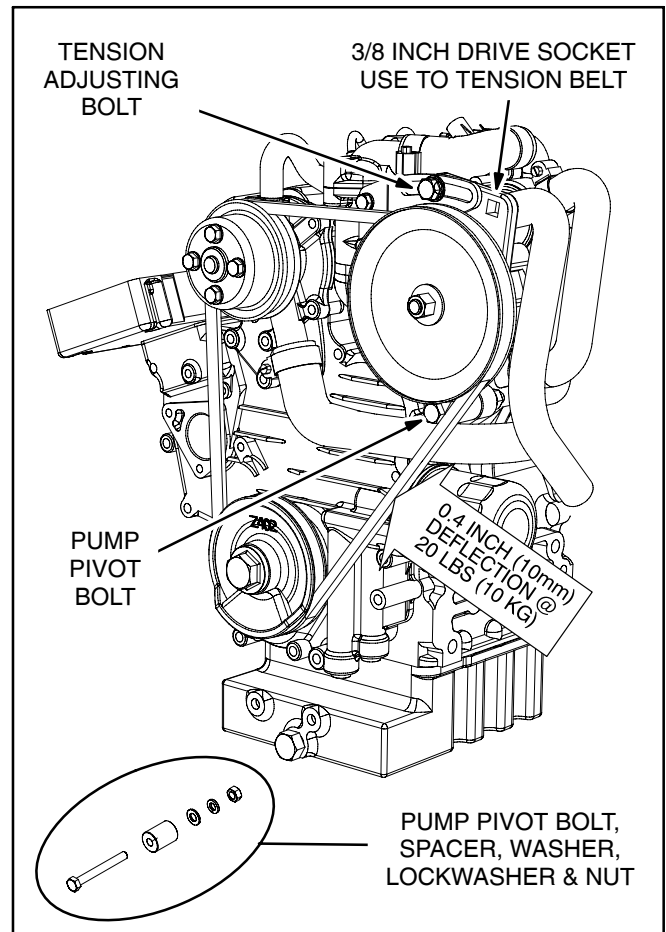
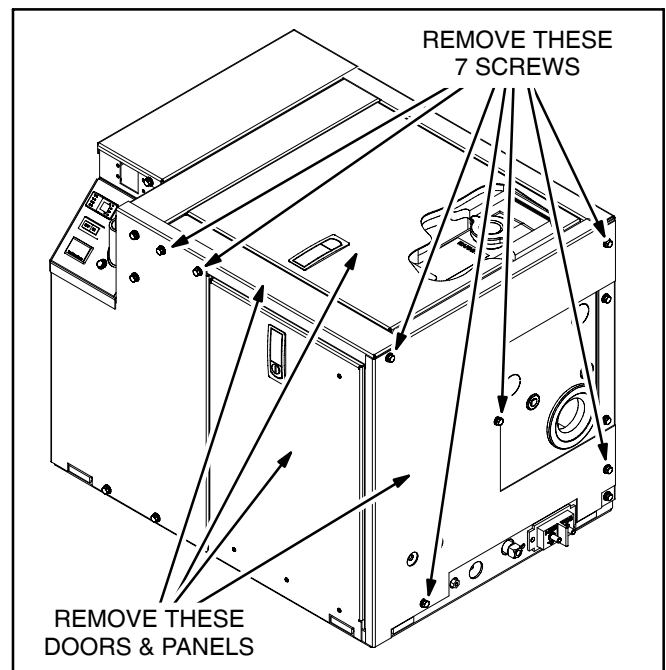
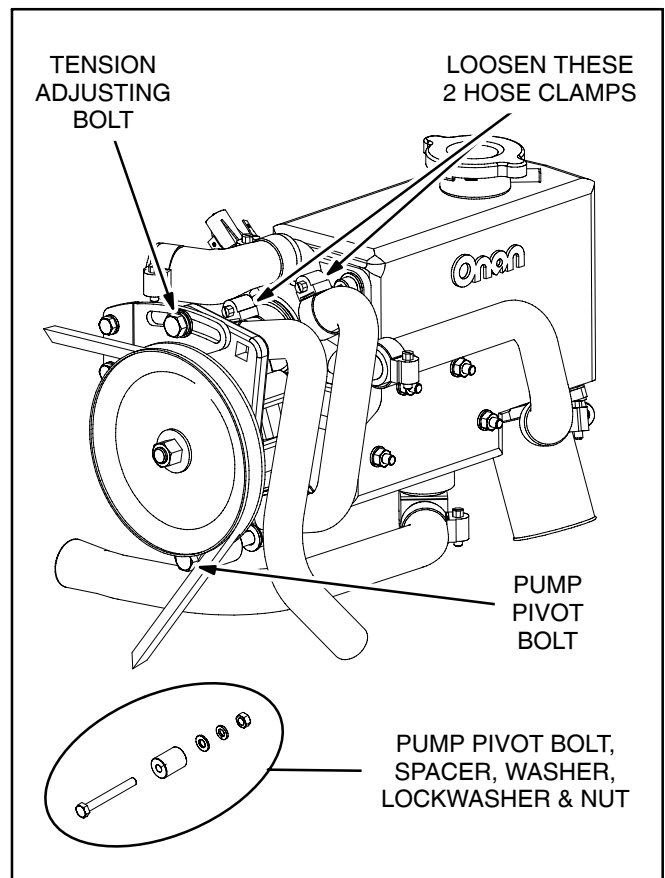

FIGURE 3-7. ADJUSTING V-BELT TENSION
FIGURE 3-8. REMOVING ACCESS PANELS
FIGURE 3-9. REMOVING RAW WATER PUMP
Referring to Figures 3-7 and 3-8, readjust belt tension as follows:
2. Remove the front and top access doors. If work space is limited, remove the side panel (Figure 3-8) to be able to hold the nut on the pump pivot bolt (Figure 3-7) with an open-end wrench while loosening the bolt.
See Table 3-1 for scheduled replacement. Have towels and containers ready and avoid spilling raw water on the electrical components below the pump. Referring to Figures 3-8, 3-9 and 3-10, replace the impeller as follows:
2. Remove the front and top access doors. If work space is limited, remove the side panel (Figure 3-8) to be able to hold the nut on the pump pivot bolt (Figure 3-9) with an open-end wrench while loosening the bolt.
3. Loosen the hose clamps shown in Figure 3-9 and disconnect the hoses.